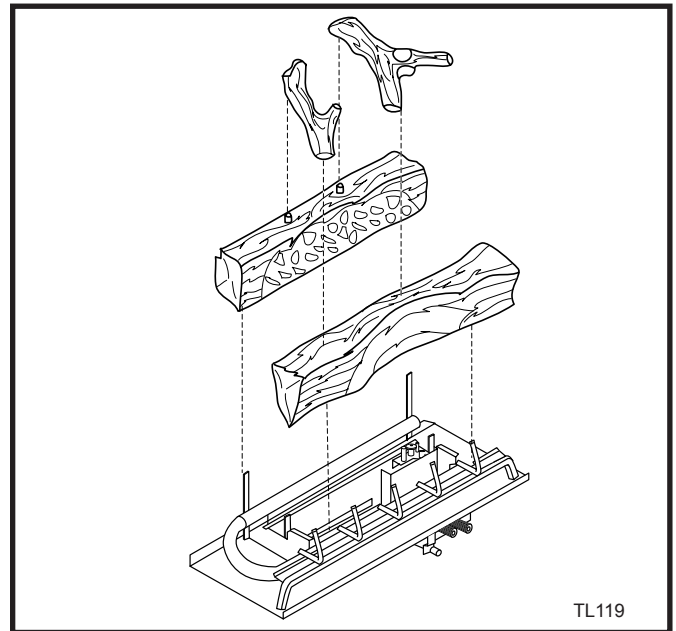

Fig. 41 Correct log placement for 36/39RDVDSN.
2. Remove logs from carton and inspect. Refer to Figure 41.